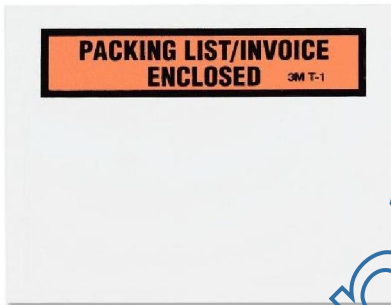

Figure 6
- A plastic envelope (figure 6) with 1 set of labels: 4S and Additional Document (If additional document applies).